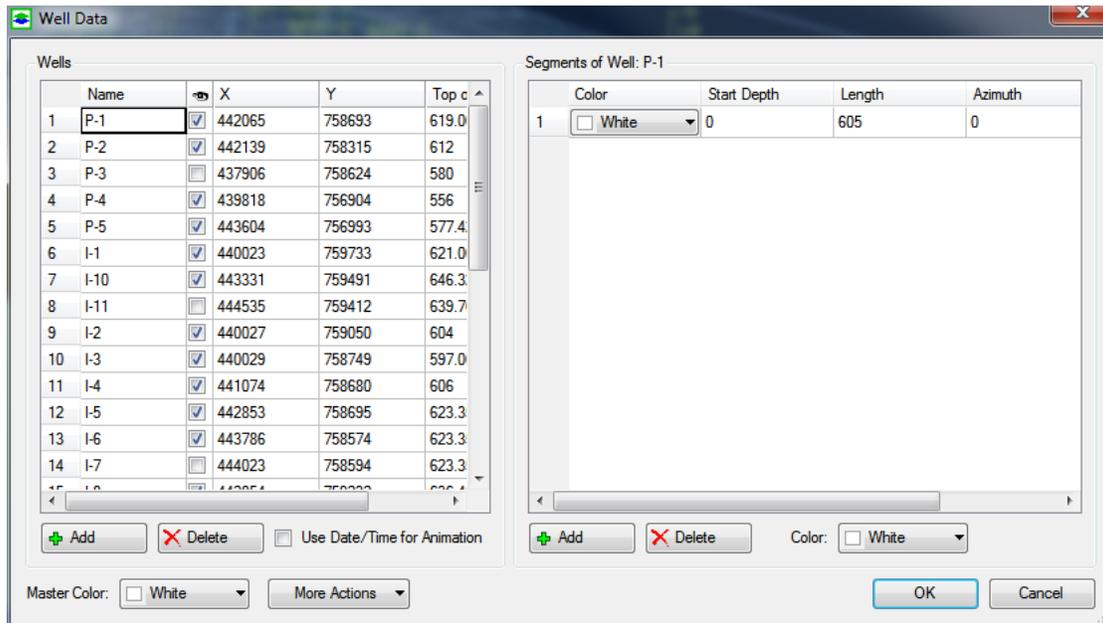

Figure 2.17. The Well Data dialog box
2. Select *Create New Object* from the popup menu to display the *Well Data* dialog box (Figure 2.17), where you can import Well files and/or edit Well data. The options of the *Well Data* dialog box are listed below.
- *Edit Data*: Click the  button to open the *Well Data* dialog box (Figure 2.17) where you can edit the well data.